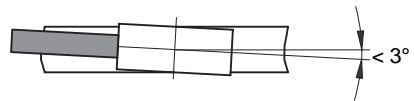

Fig. 6: Definition of counting direction / mounting
respect to the counting direction (see fig. 6). This can be ignored if counting direction can be changed via the follower electronics (eg. by magnetic display units from **SIKO**).
- When mounting the magnetic sensor, ensure that the gap between strip & sensor and the max. admissible deviation are maintained over the total measuring length! (see fig. 6)